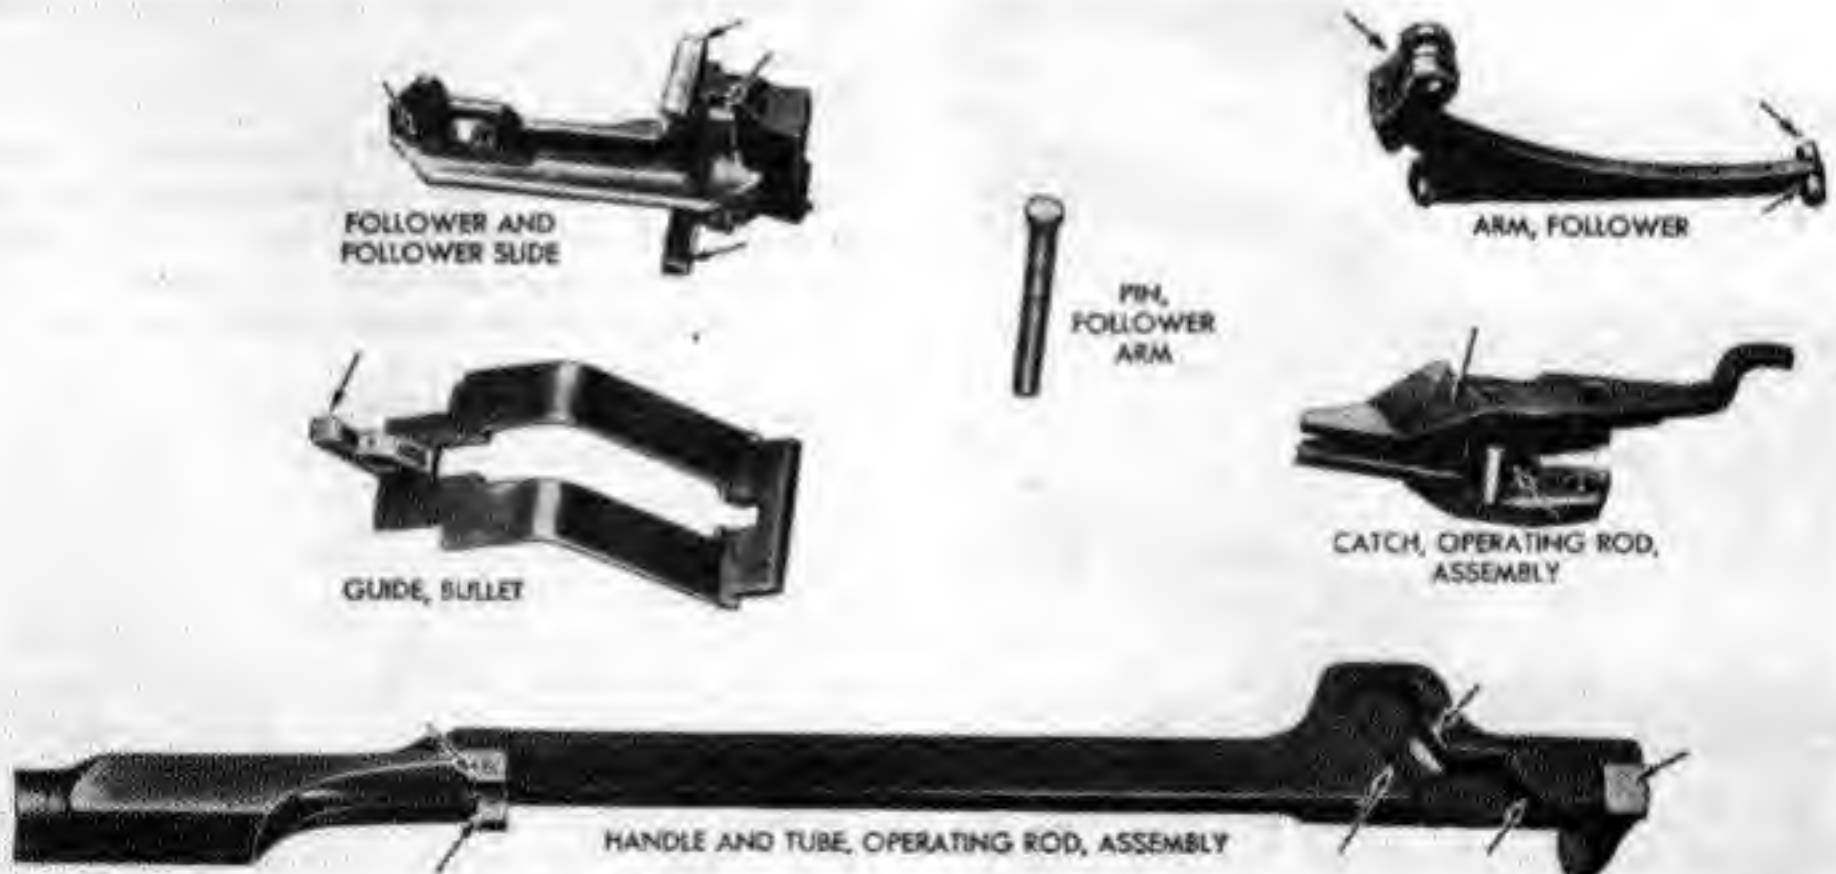

Fig. 117. Receiver group - points to inspect.
45. General: inspect all parts for damage, wear, burrs, rust, foreign matter in recesses, deformation, and for function and free action with mating parts. Important parts to be inspected are shown in Fig. 117 and 118. Test all springs for set, minimum length, and fractures.
48. Operating rod (Fig. 117): inspect for binding between the barrel and receiver group and the operating rod by installing the rod and bolt in the rifle. As the rifle is tipped up and down, the rod and bolt should be moved from the closed position to open position and back by their own weight. If there is binding, inspect the tube for dents and the handle for deformation, which will cause binding of the under side of the lug on the cut in the receiver. Inspect the piston for scoring and the accumulation of excessive carbon. Inspect the diameter of the piston with the no-go gage (Fig. 122). If measuring the piston with a micrometer, pistons which measure .525 or more inches will be considered serviceable. If the piston diameter is below the minimum as shown on the serviceability chart, the piston should be considered unserviceable.
49. Follower and follower slide (Fig. 117). Inspect the slides on follower for correct angle. An angle of approximately 92 degrees plus or minus 0 degree 20 minutes must be maintained (Fig. 123).